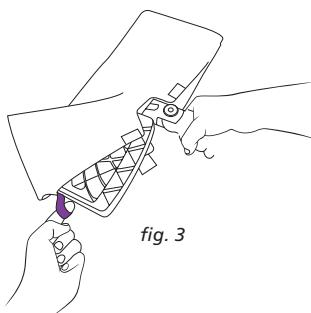

fig. 3
- 3 Use the lavender loop on the side of the cleaning pad to slide the mop head into the pad pocket. Then secure the quick fasteners on the top of the pocket to lock in place. (fig. 3)